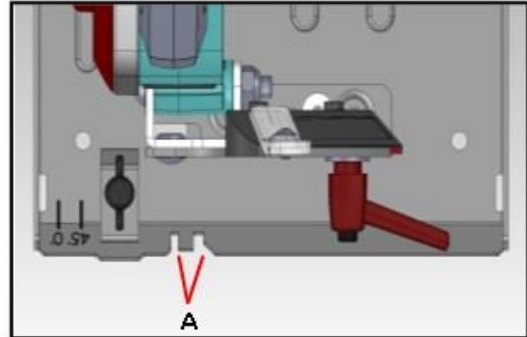

Fig.21
The sighting notch (A) near the front of the baseplate provides guidance during free-hand cuts. When performing cuts, the cutting line for the saw blade can be observed via a triangle shaped sighting notch at the front of the base plate. Align the cutting line on the workpiece with the triangle shaped sighting notch at the front of the Base Plate. **Fig. 21.**